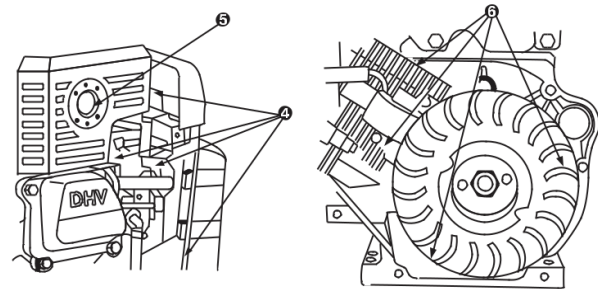

Figure-14
- Every 100 hours or every season, remove the starter guard and clean the area shown in Figure-14.